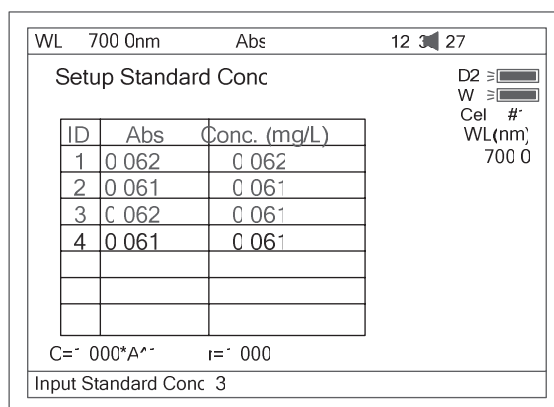
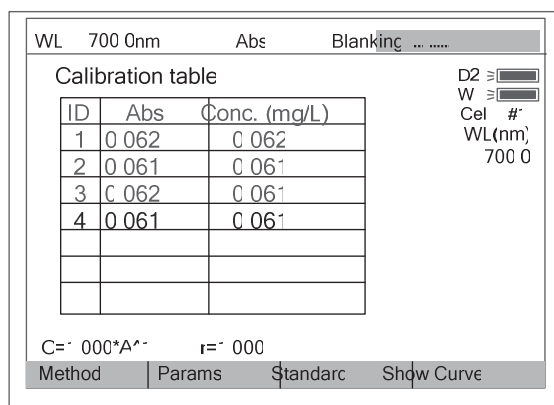

Fig 31
Fig 32
3.3.1 Enter standard concentrations of samples by pressing the Numeric keypad followed by **【ENTER】**. Press **【^】** or **【V】** to modify the inputted data (Fig31). Press **【ESC】** to finish inputting and to exit (Fig 32).
3.3.2 Push the blank cuvette into the light path, press **【0Abs/%100T】**, the instrument will step to the wavelength and blank. See Fig 32.